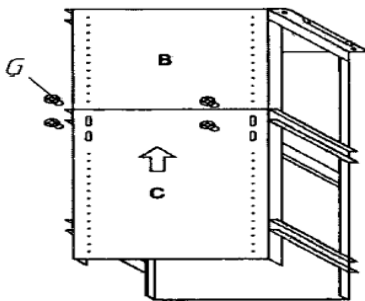

Figure 8
- Adjust the height and block it using the 8 units screws G that are supplied. (Figure 8)